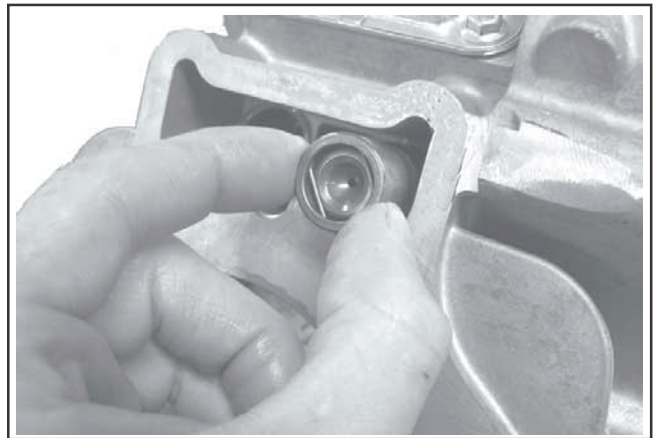

Figure 10-42. Installing Hydraulic Lifters.
3. Note the mark or tag identifying the hydraulic lifters as either intake or exhaust and cylinder 1 or cylinder 2. Install the hydraulic lifters into their appropriate location in the crankcase. Do not use a magnet. See Figure 10-42.